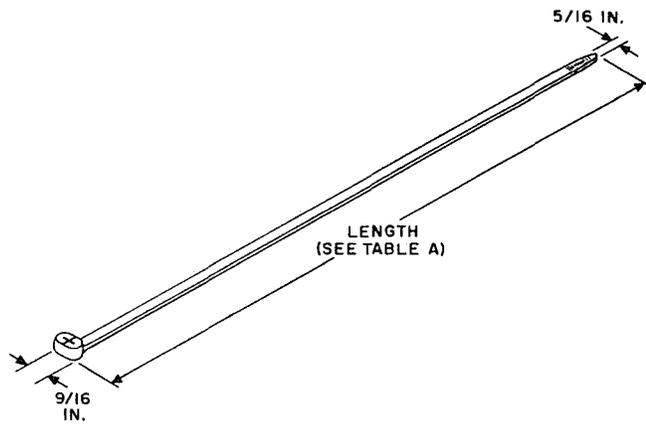

Fig. 4—C Lashed Cable Support
2.04 The C lashed cable support (Fig. 4) is a black molded nylon strap approximately $\frac{5}{16}$ inch wide with a molded ratchet buckle on one end which is self-locking and nonreleasable.